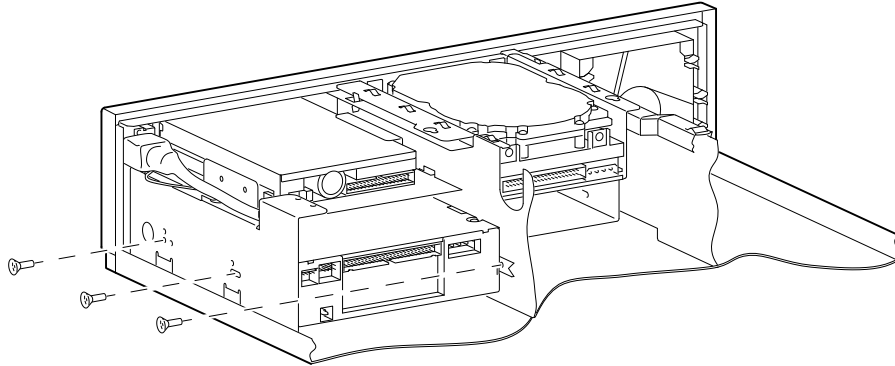

Figure 4-20 Securing the Drive
- Slide the drive into the system unit, securing it with two screws on the right side and one screw at the back of the holder on the left, as Figure 4-20 shows.